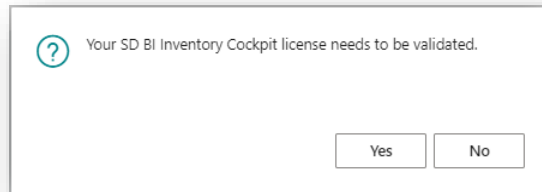

Figure 3-9
1. From the **Tell Me**, search for and select the **SD BI Inventory Cockpit Setup** card. When the **SD BI Inventory Cockpit Setup** card opens, you will be prompted that “Your SD BI Inventory Cockpit license needs to be validated”. Choose **Yes** (Figure 3-9).